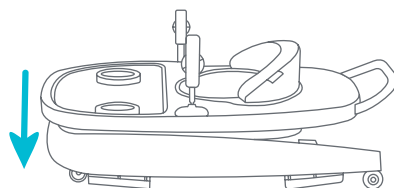

Fig. 11b
- Then push the tray downward to the lowest position (Fig. 11b).